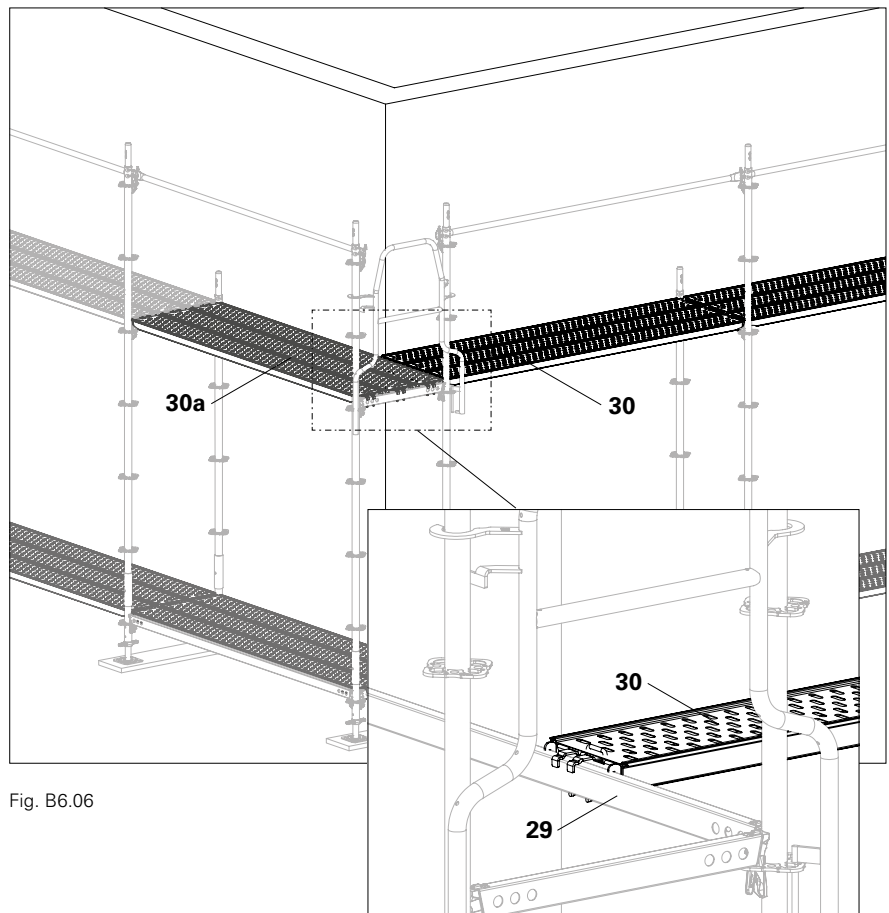

Fig. B6.06
4. Fit the steel decks (**30**) of the adjacent scaffold bay, then fit the steel decks (**30a**) of the continuous scaffold bay. (Fig. B6.06)